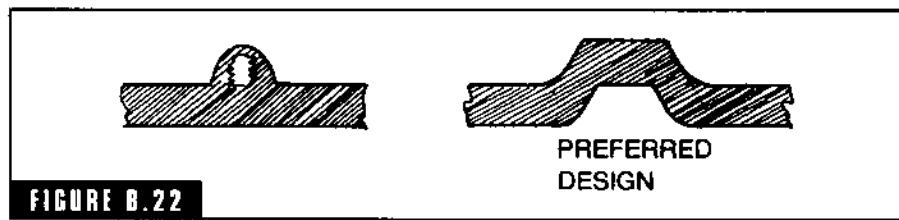

FIGURE B.22
**bolting pads** A pad or boss-type projection on a casting, which if not properly designed or chilled, will produce a hot spot and localized shrinkage at that point due to the abrupt change of metal thickness (Fig. B-22). *Hot spots* are also caused by raised pattern letters and incorrect rib design. If the bolting pads are large enough they can be cored out to prevent localized shrinkage.